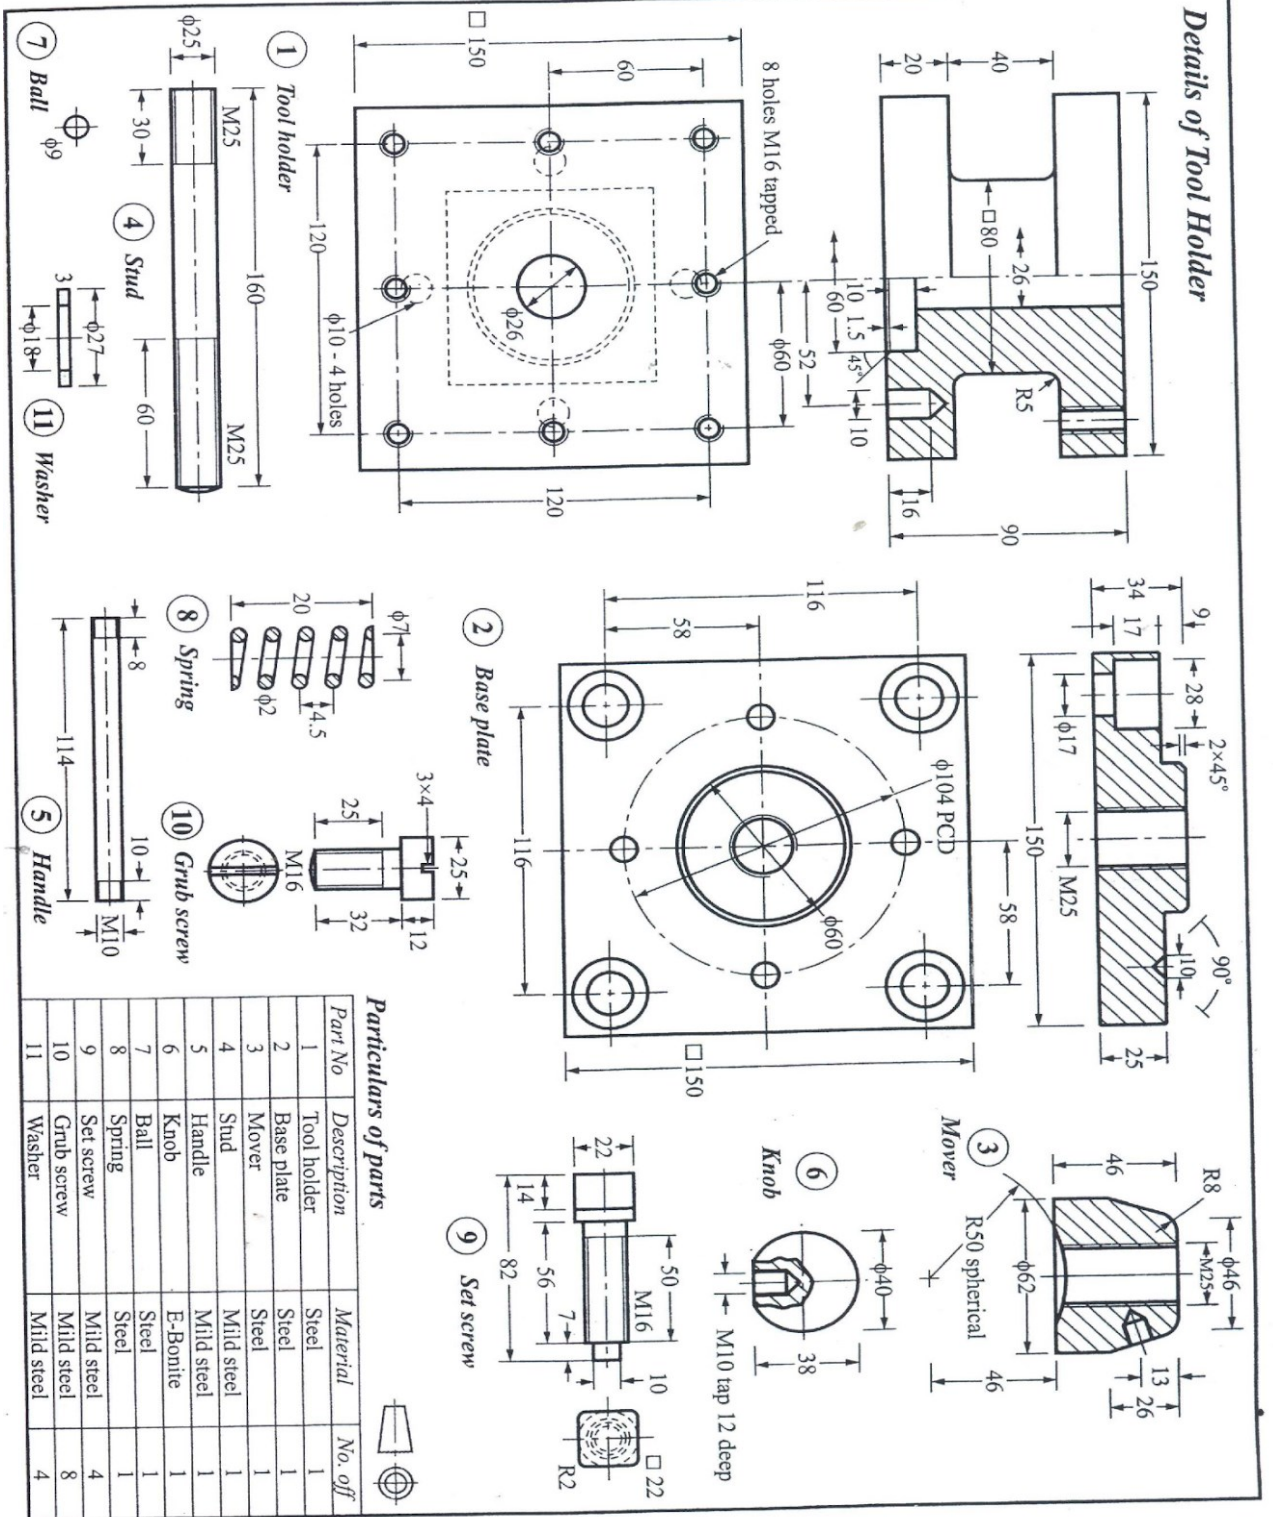

Figure 2 'SQUARE HEADED TOOLPOST'
6. Figure 2 shows the details of 'SQUARE HEADED TOOLPOST'. Assemble the parts and draw the following views of the assembly.